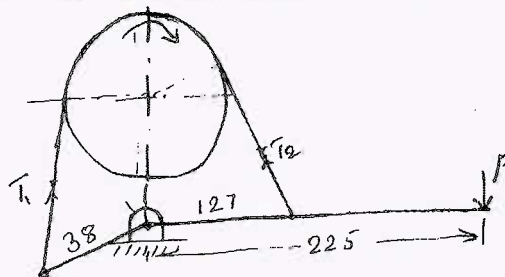

Fig.Q8(a)
- 8 a. A differential band brake shown in Fig.Q8(a) operates on a drum of diameter 600 mm. The band is  $3.2 \times 100 \text{ mm}$  and coefficient of friction is 0.22.  $\theta = 300^\circ$ .